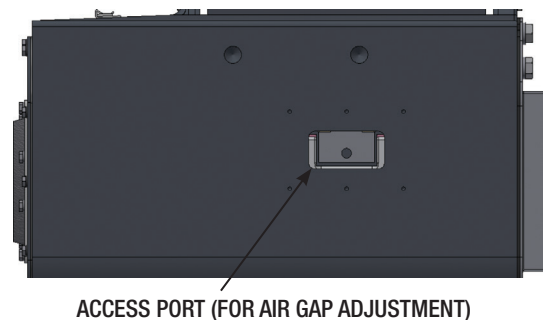
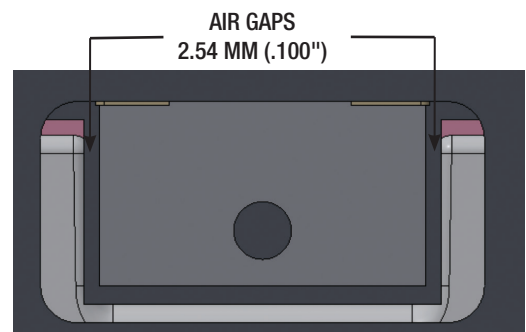

Figure 10 - Access Port
Figure 11 - Motor Gap
8. Remove the nameplate from the side of the body casing to gain access to air gap (See Figure 10).
9. Working through the opening in the side of the body casing (Figure 10) and using a non-magnetic feeler gauge furnished with each unit (Part 20), approximately 2.54 mm (0.100") thick, check the air gaps between the e-Frame legs and the armature pole pieces (See Figure 11). These gaps should be uniform in width and parallel and as nearly alike as possible. If they are not, they should be adjusted by shifting the electrical assembly plate with the front or rear adjustment screws. In checking the gaps, the internal parts will be easier to see if the rear cover is removed.